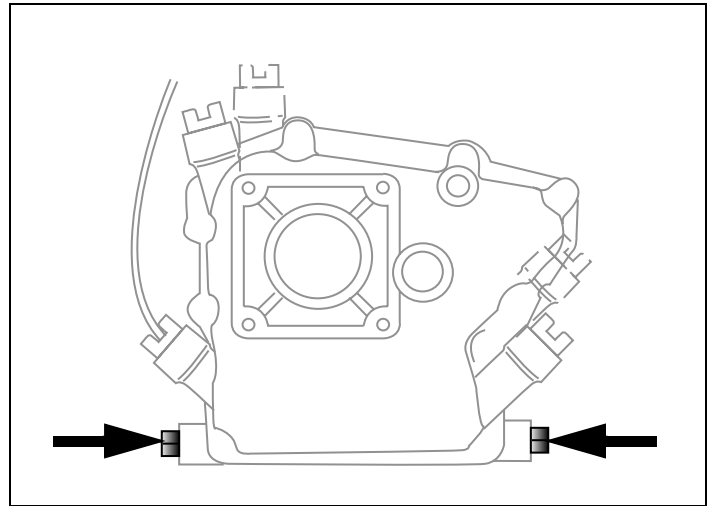

Figure 38. Possible Oil Drain Plug Location(s)
1. Be sure you find the correct drain plug location, if provided. See Figure 38.
6. Remove oil drain plug and drain oil. See Figure 38.